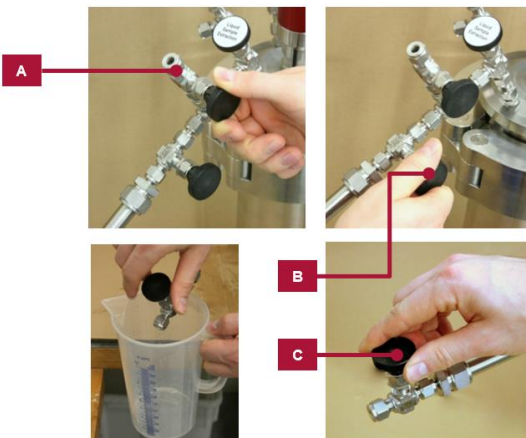

Figure 4. Handling of valves A, B and C to collect and the liquid.
- 9- After all the pressure is relieved from the system, open valves in the order of A, B and finally valve C to collect the liquid as shown in Figure 4.